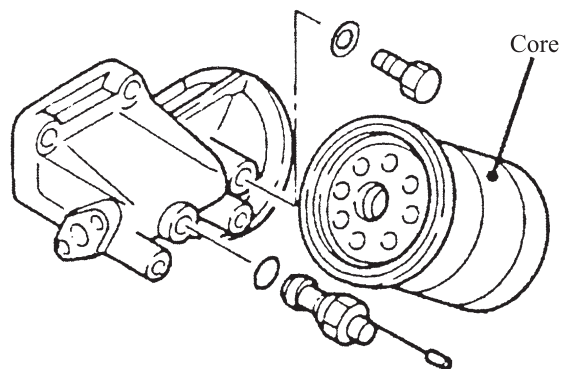

Fig.1-6
1.2.3 For the machine oil filter, See Fig.1-6.